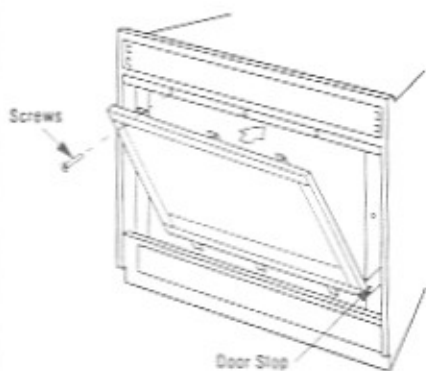

Figure 33
Position the door frame in front of the firebox opening, with the joint in the gasket down (Figure 33). Locate the three (3) tabs at the bottom edge of the door frame into the three (3) brackets at the base of the fireplace front opening. Lean the door frame back towards the fireplace ensuring that the gasket seats evenly as the door frame draws shut. Install the three (3)  $\frac{1}{4}$ "-20 x 1" Phillips pan head screws removed previously and tighten to secure. Ensure that the tab on the bottom of the door frame engages the door switch.